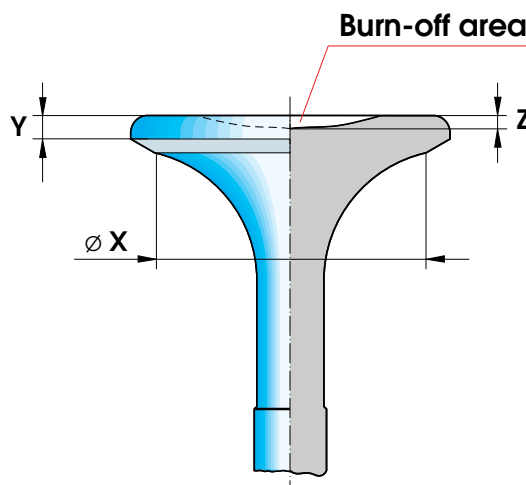

Fig 12-5
2 Control the burning-off on the exhaust valve disc according to Fig 12-5. The measure “Y” should be more than 7.8 mm (nominal 8.8 mm) and measure “Z” should be less than 1 mm. If the measures exceed these limits the valve must be replaced.
- 1 Seat face of the inlet valve:** The seat angle of the inlet valve is 20° with a tolerance of 0°- +0.10°. Minimum allowable inner diameter "X" of the seat face after grinding is 92 mm, see Fig 12-5; after that, the valve must be replaced by a new one.
- 2 Seat face of the exhaust valve:** The seat angle of the exhaust valve is 40° with a tolerance of 0.10°- +0.20° to achieve contact to the seat ring at the periphery of the valve. Minimum allowable inner diameter "X" of the seat face after grinding is 82 mm, see Fig 12-5; after that, the valve must be replaced by a new one.